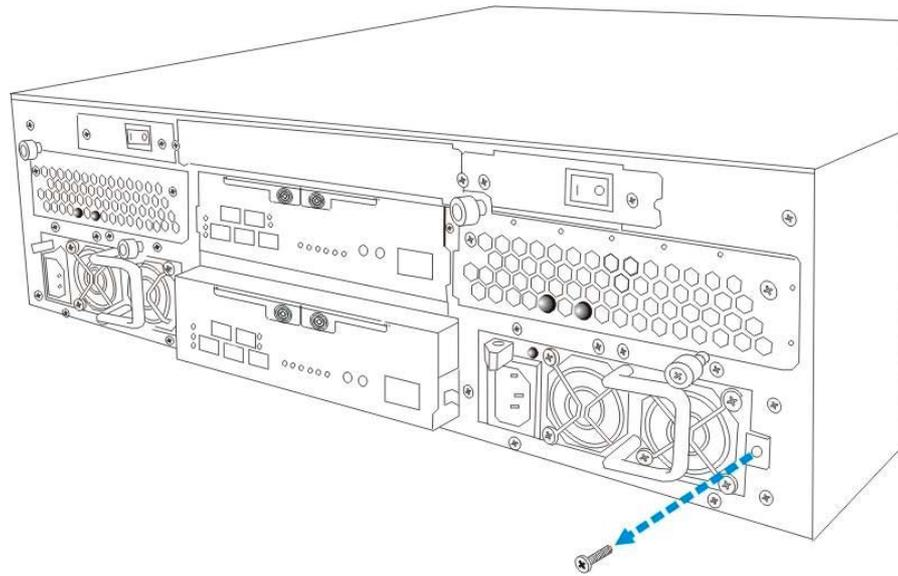

Figure 5-5: Removing the PSU Retention Screw
- Step 1. Turn off the PSU.** The power switch is located at the top of the rear panel, directly above the PSU module. (See *Figure 5-5*)
- Step 3.** After the power cable has been removed from the socket, **remove the retention screw** on the right-hand side of the PSU. (See *Figure 5-5*.)